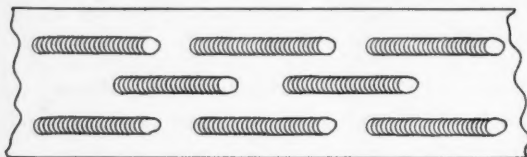

Fig. 1—Weld metal should be deposited in short lengths and then allowed to cool.
2. Weld intermittently. Make beads not over one or two inches long, then allow the weld to cool for from three to five minutes. If the work is large, lay another bead some distance away while the previous one is cooling. This intermittent welding, as illustrated in Fig. 1, will prevent an accumulation of strains in any one place.